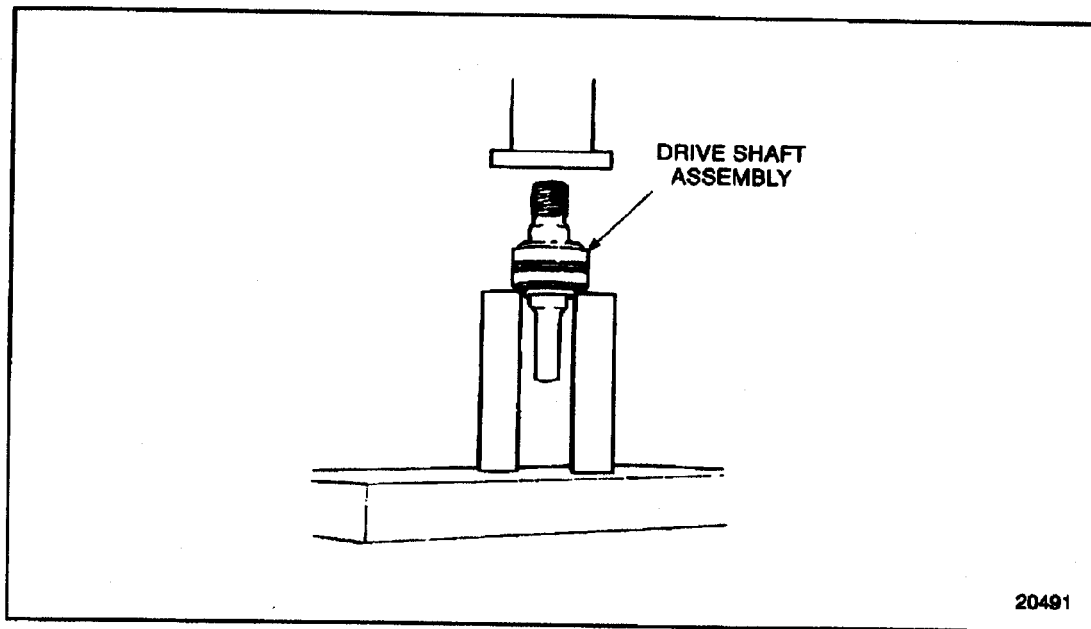

Figure 4-42 Removing Bearing Assemblies (FM)
9. Support the drive shaft assembly on two steel blocks, at the bearing inner race. See Figure 4-42.